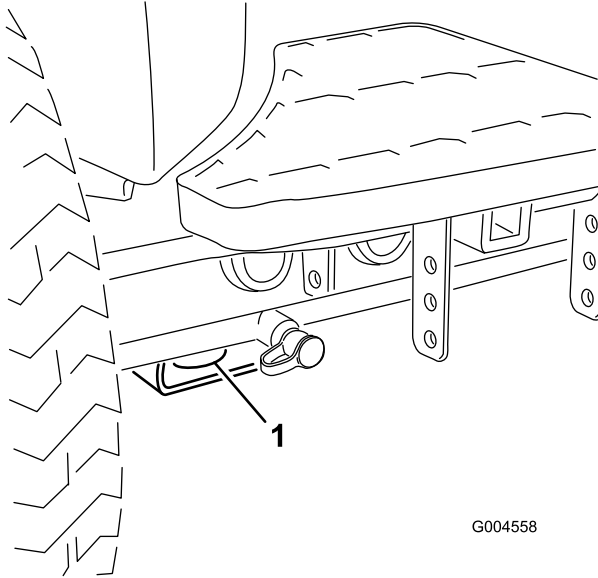

Figure 44
- Front—the hole in the rectangular pad, under the axle tube, inside each front tire (Figure 44).